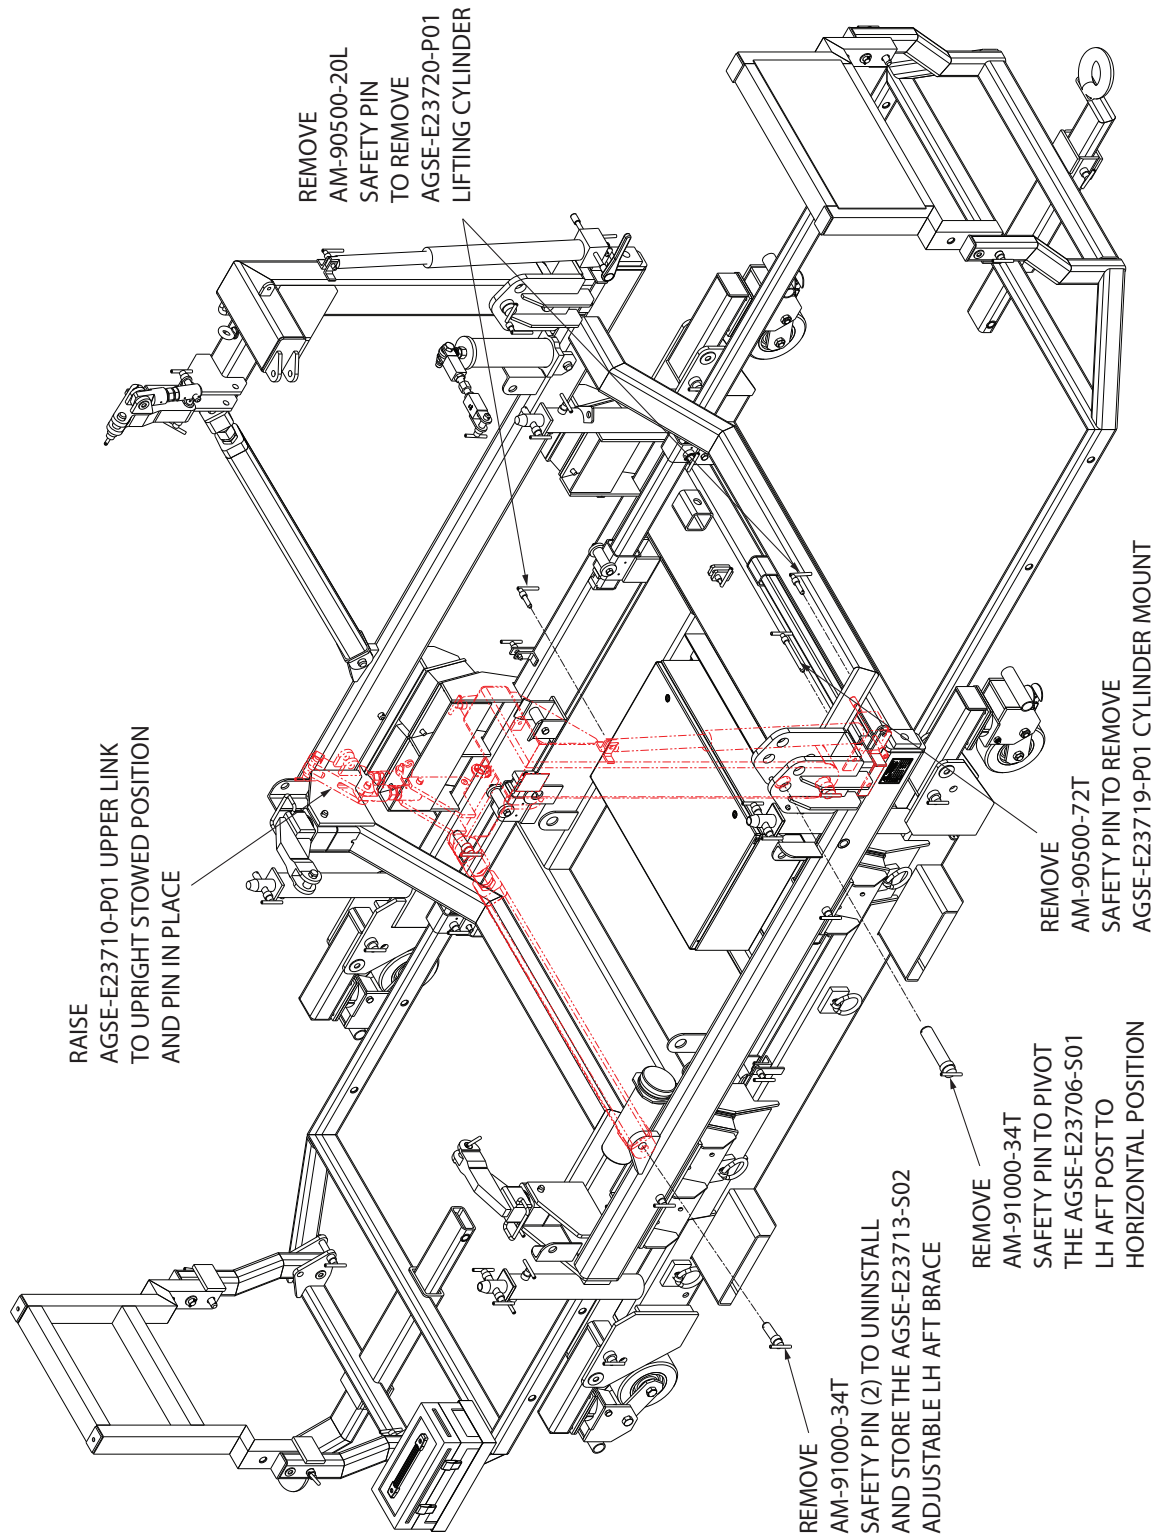

Figure 5.2-1
5.2 Engine Installation (Figures 5.2-1 and 5.2-3)